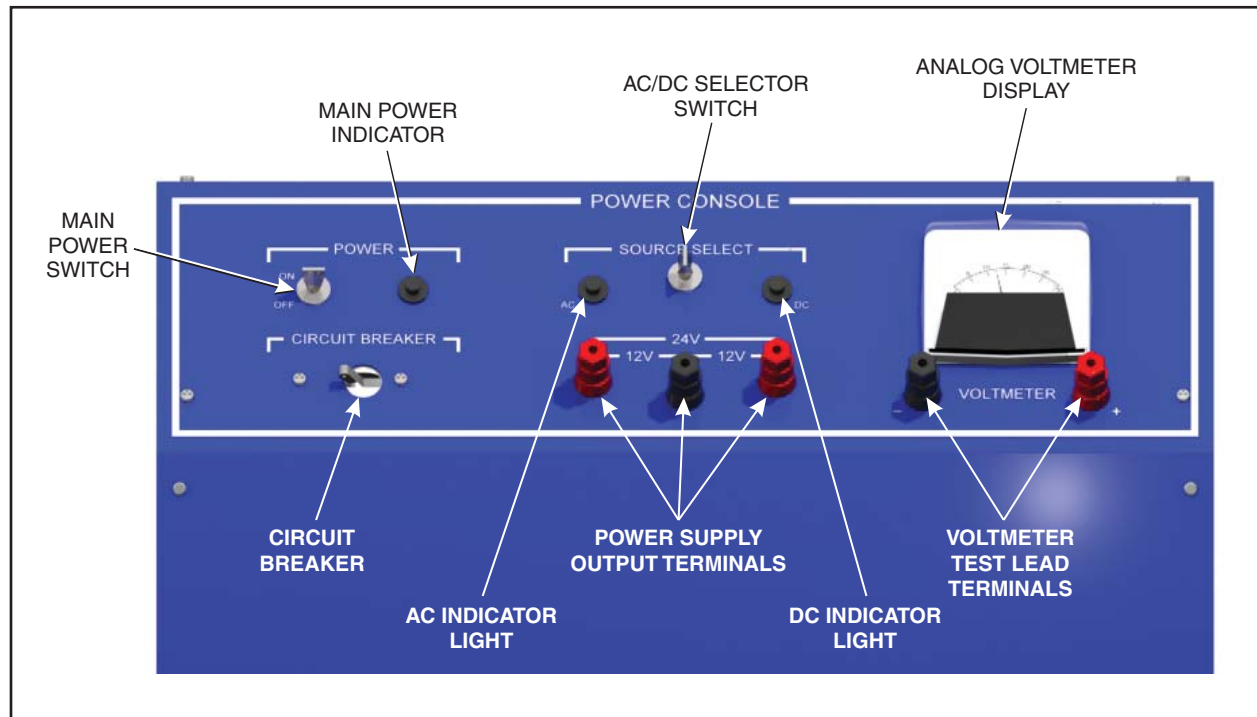

Figure 2-2. Control Panel of the T7017 AC/DC Electrical System
- ❑ 3. Perform the following substeps to locate the various control panel components on the T7017 AC/DC Electrical System, as shown in figure 2-2.